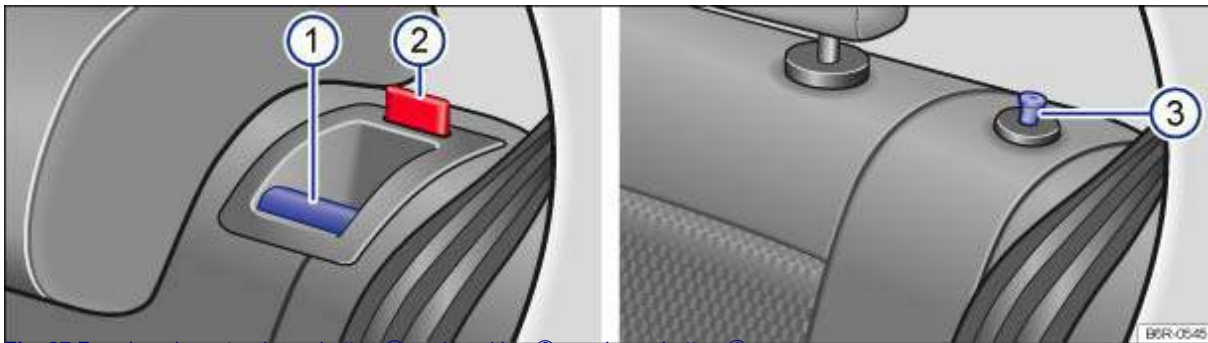

Fig. 87 Rear bench seat: release button ①, red marking ② or release button ③
- Pull release button → Fig. 87 ① forwards or pull up release button ③ and fold rear seat backrest forward at same time. For single rear seat backrests, both release buttons must be pulled at the same time.
- The rear seat backrest is unlocked when you can see a red marking in the release button → Fig. 87 ② .
- The red marking on the release button(s) → Fig. 87 ② should no longer be visible.
- The backrest has not been secured properly if you can see the red marking on button → *Fig. 87 @* . Always ensure that the red marking is never visible when the rear seat backrest is in the upright position.